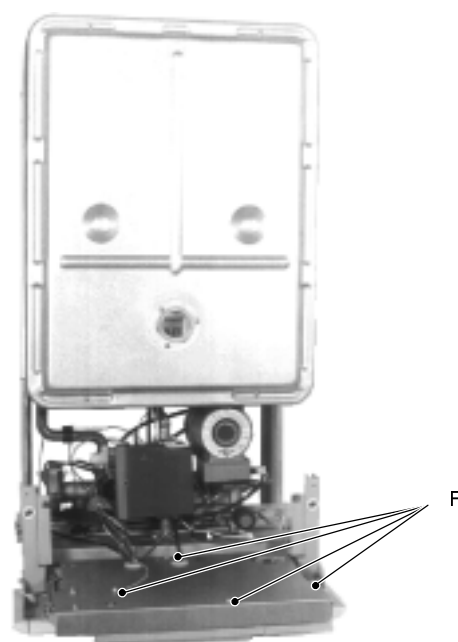

fig. 8
- 2 Remove the four screws *F* (fig. 8) and remove the metallic cover.